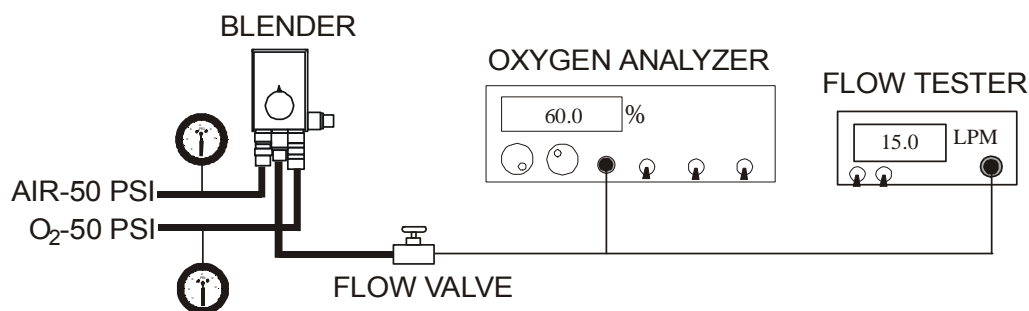

Figure 18
- 6.2.2. Connect the primary blender output to a flow valve capable of >50 lpm, a flow measurement device, and an oxygen analyzer per the manufacturer's instructions. Refer to Figure 18.
- 7.1. Set up as in Figure 18. Set the blender to 60%.
- 7.10. If there is a knob on the side of the blender, leave the set up as in Figure 18. Set the knob to the “less than (<)” indication, adjust the flow to 2.0 lpm and repeat 7.3 – 7.8 using this lower flow.